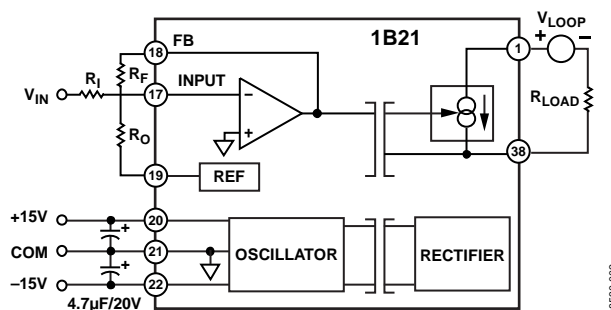

Figure 4. Basic Interconnections
The 1B21 has been designed with a flexible input stage for a variety of input and output ranges. The basic interconnection for setting gain and offset is shown in Figure 4. The output of the internal amplifier is constrained to 0 to -5 V, which maps into 0 to 20 mA across the isolation barrier. Thus to create a 4 mA offset at the output, the input amplifier has to be offset by 1 V.
The specifications for gain and offset temperature coefficient (TC) for the 1B21 excluded the effects of external components. The total gain TC for the circuit in Figure 4 is